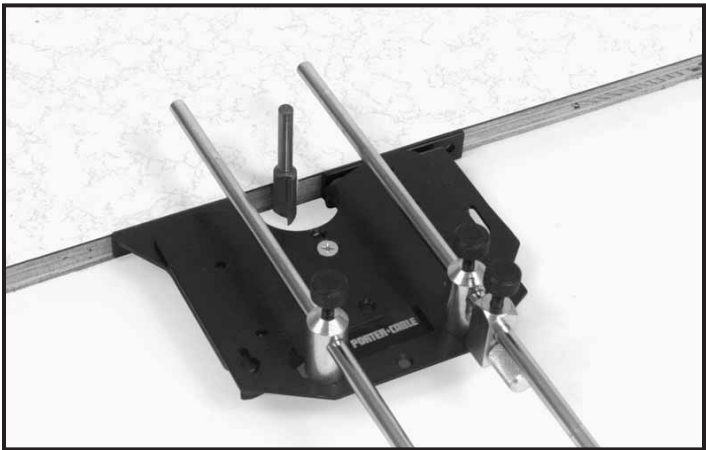
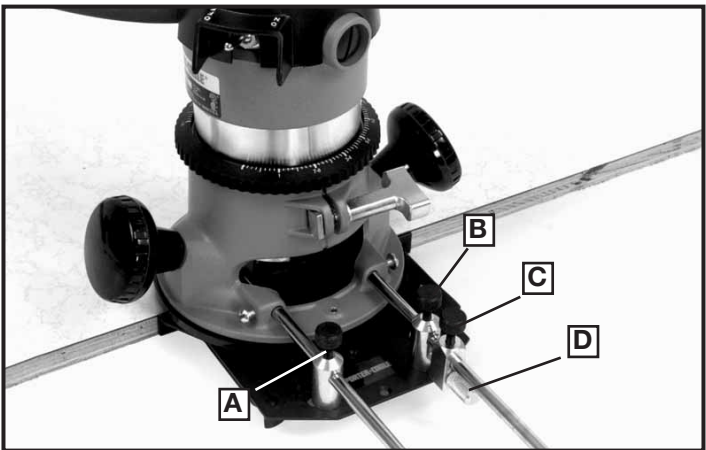

Fig. 7
Fig. 8
1. Set leading or right (adjustable shoe plate) edge back from the trailing (left) edge a distance equal to the amount of stock you wish to remove. (See Fig. 7). It is recommended that when considerable stock is to be removed that several cuts be made instead of one.
3. Loosen knurled screws (A,B and C) Fig. 8 and roughly adjust the guide so cutting edge of bit is in line with trailing edge of guide.
4. Tighten knurled screw (C). While holding a straight edge against the wall of the trailing edge, adjust position of guide, by turning micro-screw (D), until cutting edge of bit just touches straight edge. **NOTE: Turning router and guide assembly upside down might make step 4 easier.**
5. Tighten both screws (A and B). The relative position of bit to guide will then be similar to that shown in Fig. 7.
Making the Cut: Start the cut at the left end of the work with only the leading edge of the guide flat against the edge of the work. Move router from left to right. As the cut progresses, the trailing edge will also contact and ride along on the edge of the work (see Figs. 7 and 8).